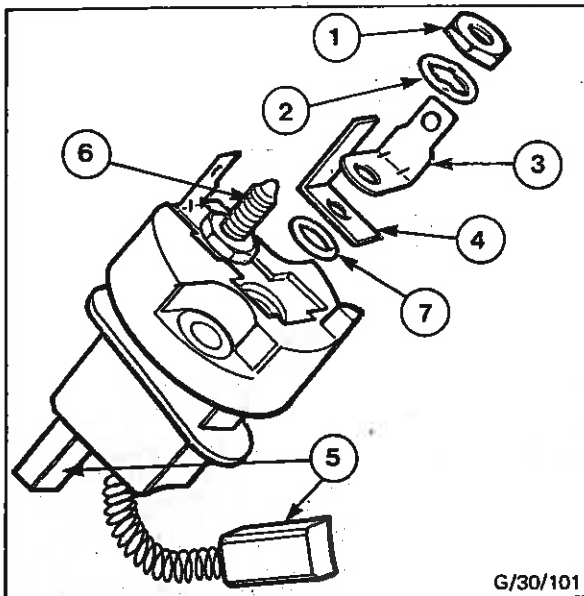

Fig. 62 - Dismantling Brush Box
4. Disconnect the lead (2) from terminal 'A' of brush box, remove the two retaining screws (3), complete with spring and plain washers and withdraw brush box (4) complete with brushes. Discard gasket.
5. Remove field terminal retaining nuts (1), crinkle washers (2), 'Lucar' blades (3) and insulator (4) from terminal posts. Withdraw brushes (5) and field terminal posts (6) from brushbox. Discard sealing rings (7) - see Fig. 62 (Brushboxes on AC5B alternators cannot be dismantled).